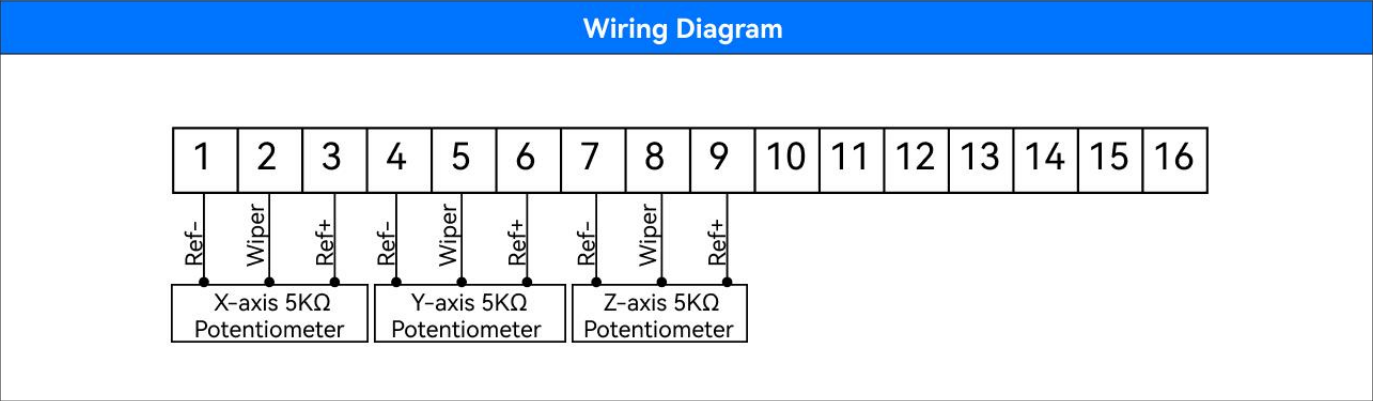

Figure1.3
1. Used for wiring the WLF-10P handle, as shown in Figure 1.3.